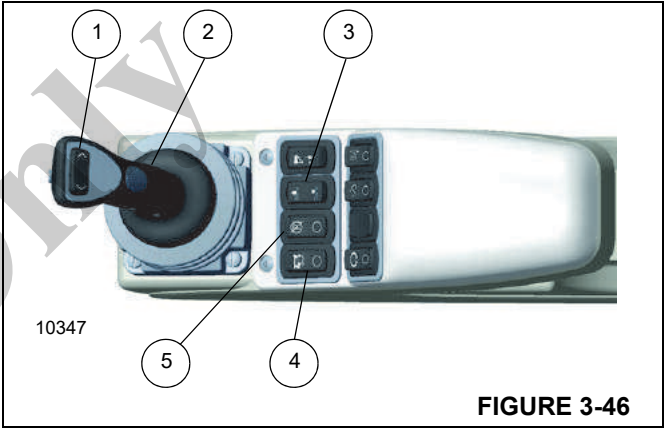

FIGURE 3-46
There are three switches on the lower row of the Left Arm Rest (Figure 3-46) used for Remote Drive Operation: Remote Drive Enable, Park Brake On/Off, and Suspension Inflate/Deflate (from Outside to Inside of arm rest).
NOTE: Inflating the Suspension may be done only when traveling with the boom in the rest. For any travel with the boom over the rear, or when lifting loads on rubber, the air bags must be deflated. Use the Inflate/Deflate Switch (Figure 3-46) on the left Armrest to actuate the air bags.
4. Enable the Remote Drive switch on the left armrest (Figure 3-46). An indicator with the Remote Drive symbol will appear on the Operator Display Module (ODM).
3. Disable the Remote Drive switch on the left armrest (Figure 3-46). An indicator with the Remote Drive symbol will disappear on the Operator Display Module (ODM).
Inflating the Suspension may be done only when traveling with the boom in the rest. For any travel with the boom over the rear or when lifting loads on rubber, the air bags must be deflated. See Figure 3-46 for switch locations. To inflate the suspension, hold the Inflate Suspension Switch until fully inflated. To deflate the suspension, push and release the Deflate Suspension Switch.